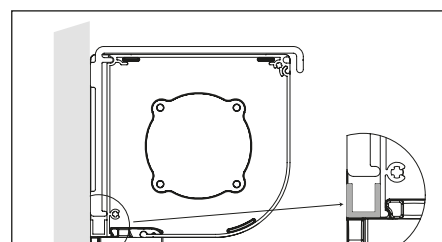

Fig. 31: U-profile width - horizontal
A. U-profile width - horizontal (fig. 31)